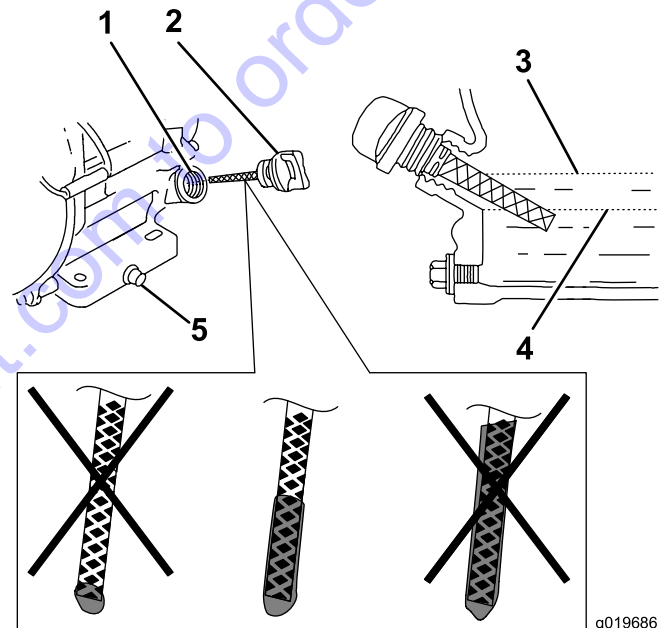

Figure 7
3. Clean around the dipstick, so that dirt cannot fall into the filler hole and damage the engine (Figure 7).
Note: The oil should be level with the upper-limit mark (Figure 7).